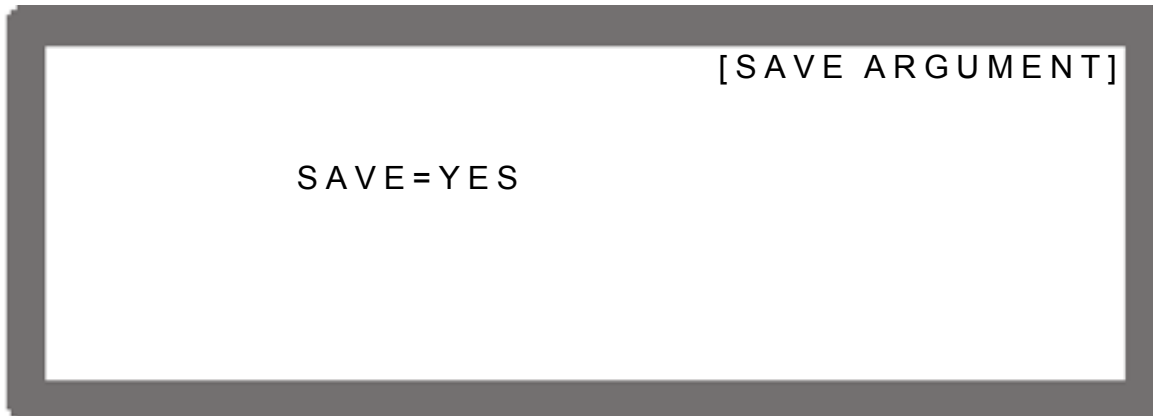

Figure 3-103
- (9) Now the voltage calibration is done. To save the calibration data, press “” will prompt a confirmation page as Figure 3-103 shows, press “” to save it. Press “” to return to MAIN PAGE.